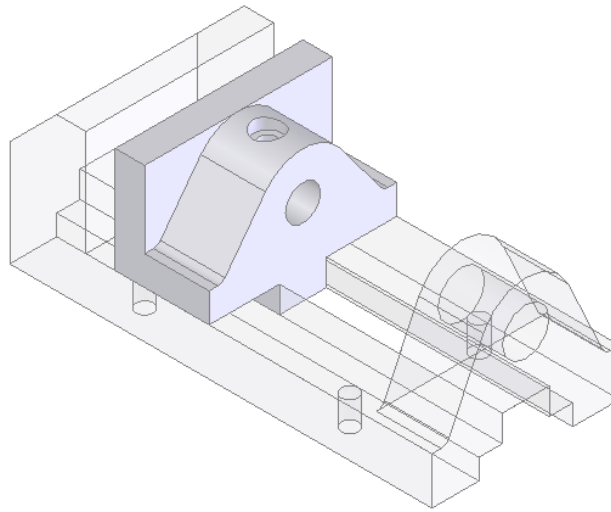

Figure 11-56 Vice Jaw in the part edit mode in the assembly document
3. Select the Vice Jaw from the assembly and then choose the **Edit Part** button from the **Assembly** toolbar. The part modeling environment is invoked in the assembly document and the Vice Body is displayed in transparent as shown in Figure 11-56.